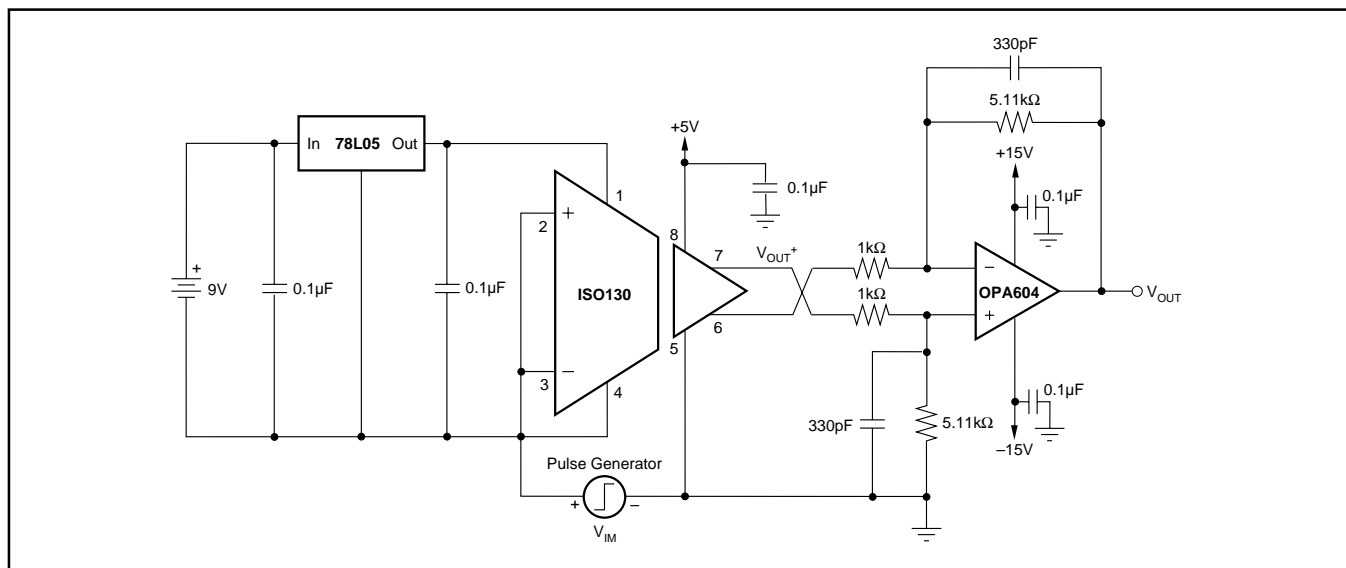

FIGURE 2. Isolation Mode Rejection and Transient Immunity Test Circuit.
The third guaranteed isolation specification for the ISO130 is Transient Immunity (TI), which specifies the minimum rate of rise or fall of an isolation mode noise signal at which small output perturbations begin to occur. An isolation mode signal is defined as a signal appearing between the isolated grounds,  $GND_1$  and  $GND_2$ . Isolation Mode Voltage (IMV) is the voltage appearing between isolated grounds. Under certain circumstances this voltage across the isolation barrier can induce errors at the output of the isolation amplifier. Figure 2 shows the Transient Immunity Test Circuit for the ISO130. In this test circuit a pulse generator is placed between the isolated grounds ( $GND_1$  and  $GND_2$ ). The inputs of the ISO130 are both tied to  $GND_1$ . A difference amplifier is used